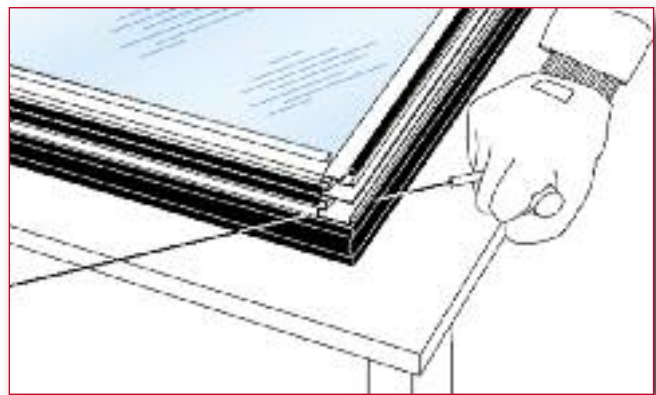
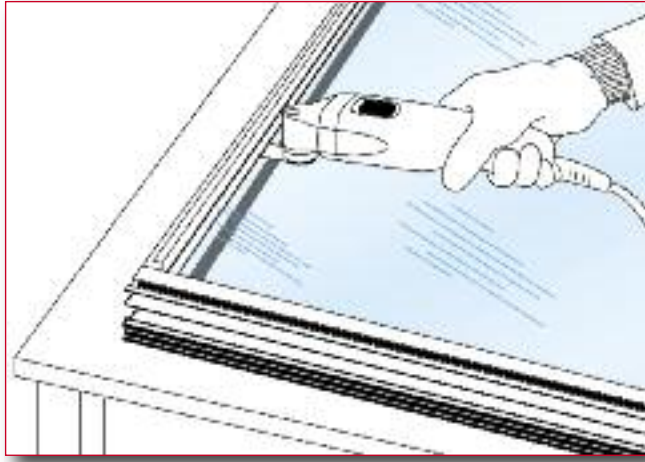

Figure 24: Cutting through tape with “Piano Wire”
Figure 25: Automatic sealant cutter
1. Cutting through the 3M™ VHB™ Structural Glazing Tape bondline is the most effective way of separating the glass lite from the structural frame. This will require special tools such as piano wire (Figure 24), an automatic sealant cutter (Figure 25), or a sharp blade to cut through the 3M™ VHB™ Structural Glazing Tape. Use a lubricant such as liquid soap to quicken cutting through the tape. Care should be exercised to avoid damaging of the frame surface or the glass if they are to be used in the re-glazed unit.